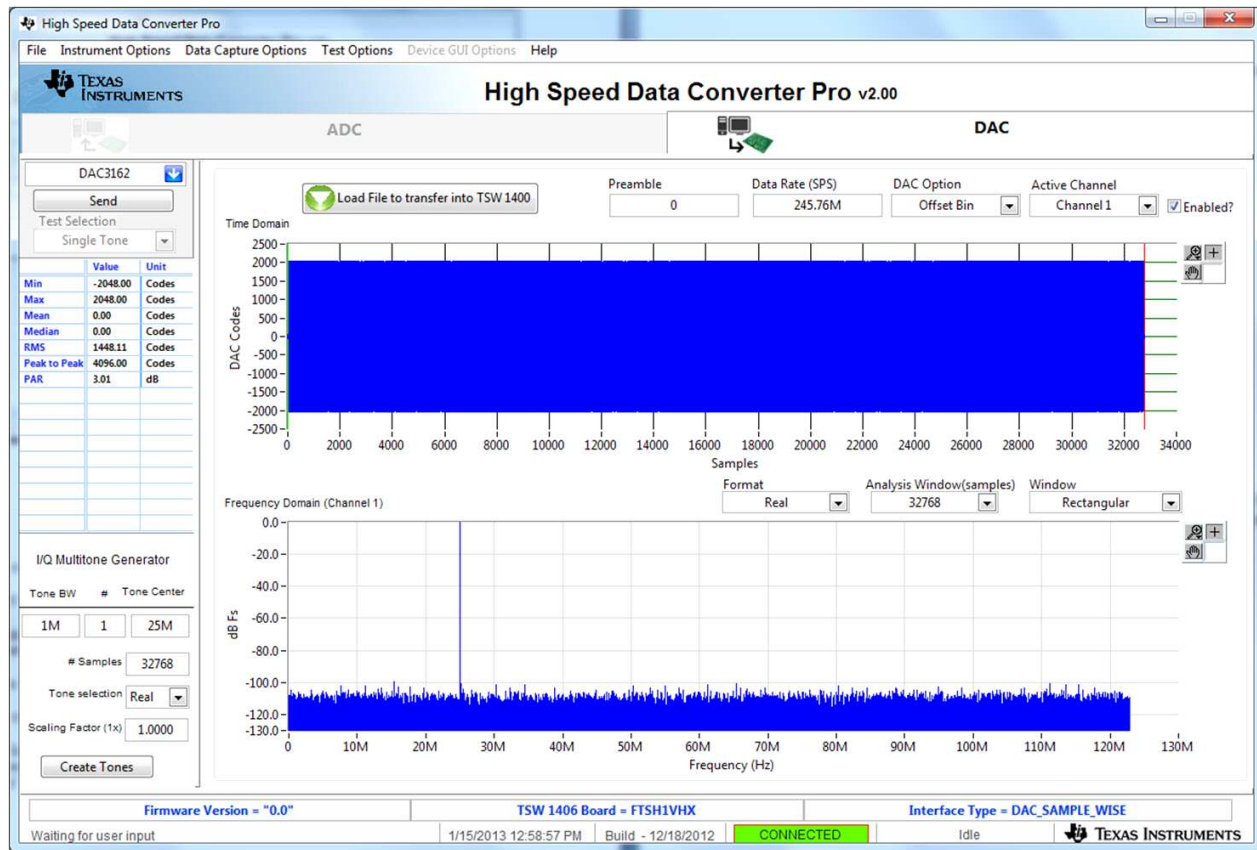

Figure 6. Loaded Test Pattern Time and Frequency Domain Plots
- In the *I/Q Multi-tone Generator* section of the GUI, located in the lower left of the GUI, set the parameters to generate a single tone centered at 25 MHz. After the parameters are entered click the **Create Tones** button. The GUI now looks as shown in Figure 6.